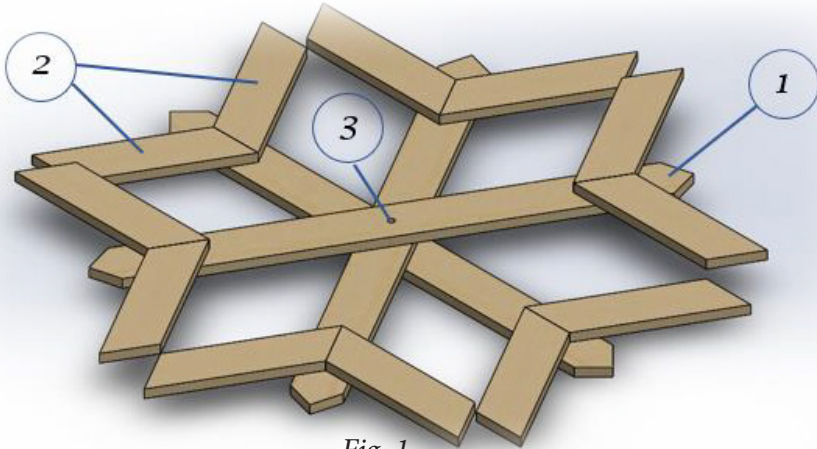

Fig. 1
- Divide the (12) wingtip pieces (#2 in Fig. 1) into (6) pairs. Place (1) pair at each end of each crosspiece. Abutt the angled ends of each pair as indicated by the red arrows in Fig. 2. Use the red circle in Fig. 2 to help position the wingtips at the end of each crosspiece.
- 3 – Crosspieces (#1 in Fig. 1)
- 6 – 2-piece wingtip assemblies (#2 in Fig. 1)